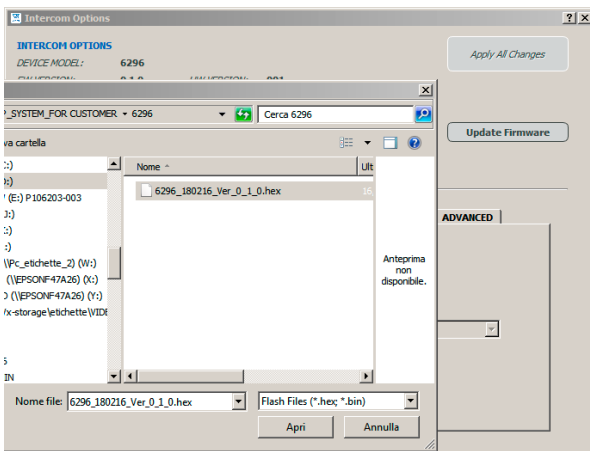

Fig. 28 Select the proper firmware file
- Select the correct firmware file (Fig. 28).